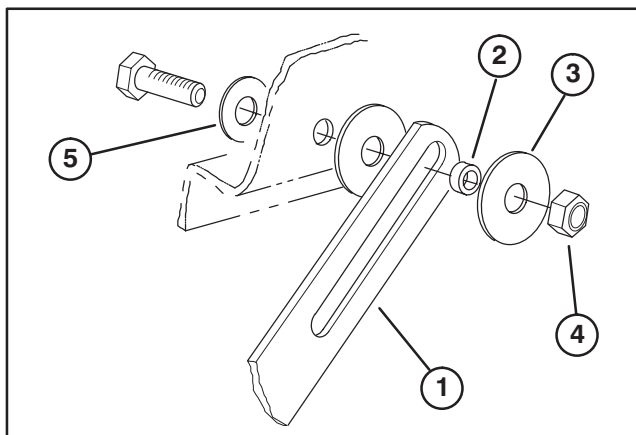

Figure 7
5. Mount hood stop, spacer and (2) washers to each side of hood with a 5/16-18 x 7/8" lg. capscrew and locknut (Fig. 7).